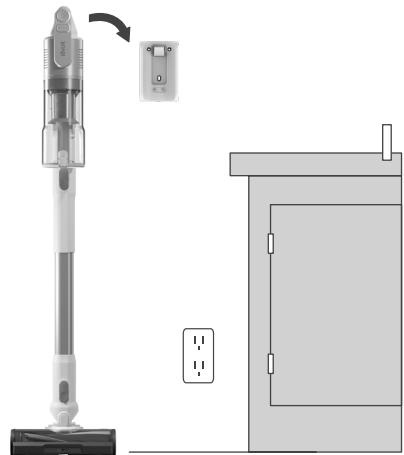

Figure 2.2
1. Install the charging dock by screwing it into the wall near a power outlet. **[Figure 2.2]**